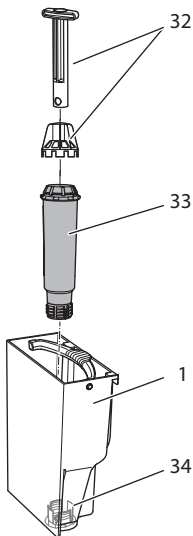

Fig. 19: Screwing/Unscrewing the water filter
- Remove the water filter (see Fig. 19 on page 51).
9. Insert a new filter in the water tank (see Fig. 19).
3. Remove the water filter (see Fig. 19).